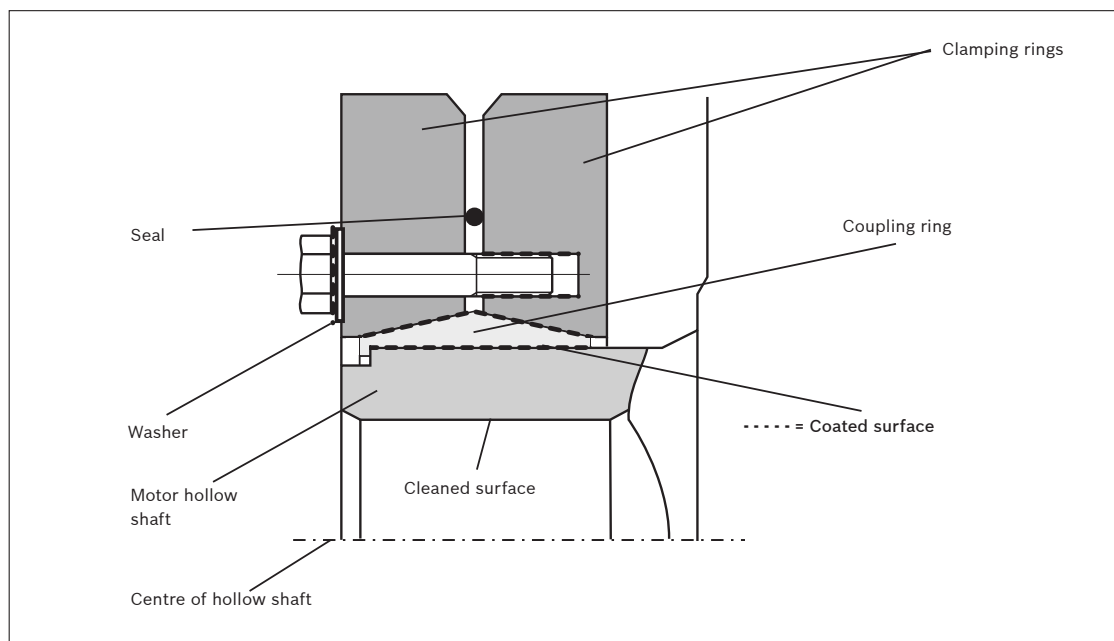

Fig. 3.10
- The conical surface between the coupling ring and the clamping rings + the bolts shall be coated with MoS₂ (Molykote), see fig. 3.10. This is done from the factory at delivery! When a motor has been in for overhaul or service and shall be reassembled it may be necessary to relubricate those surfaces with Molykote again but remember only the specified surfaces!